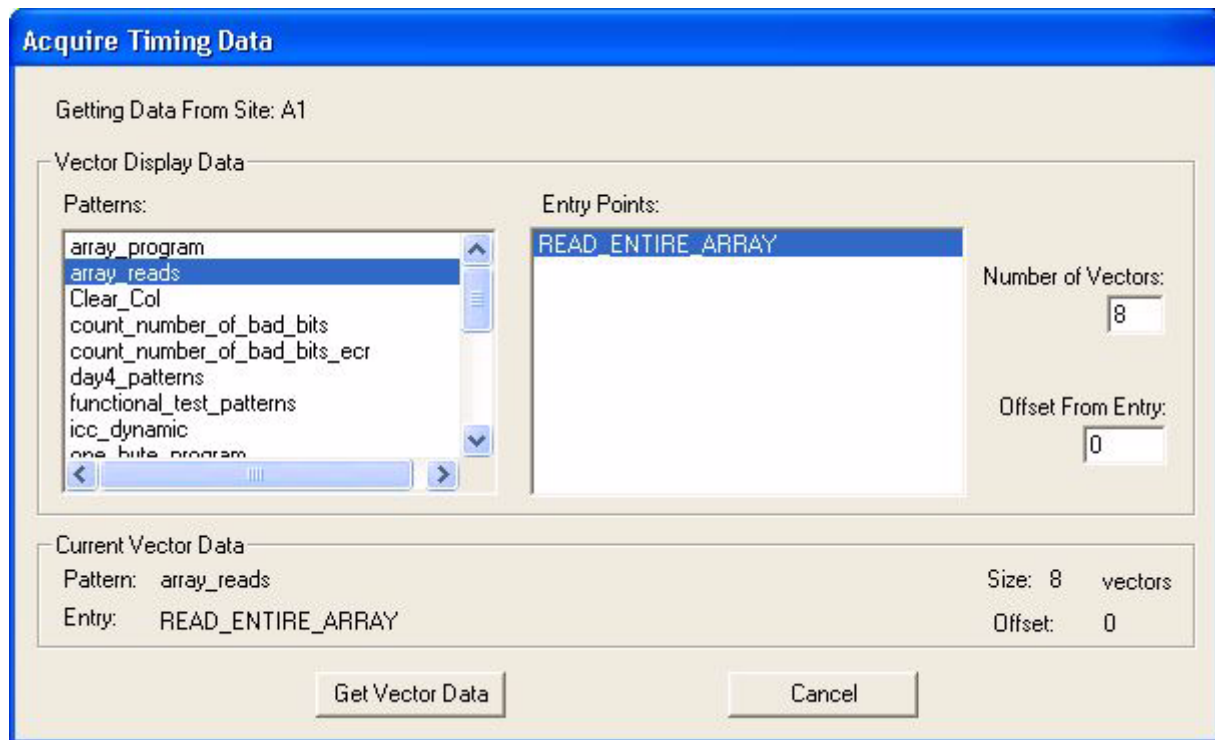
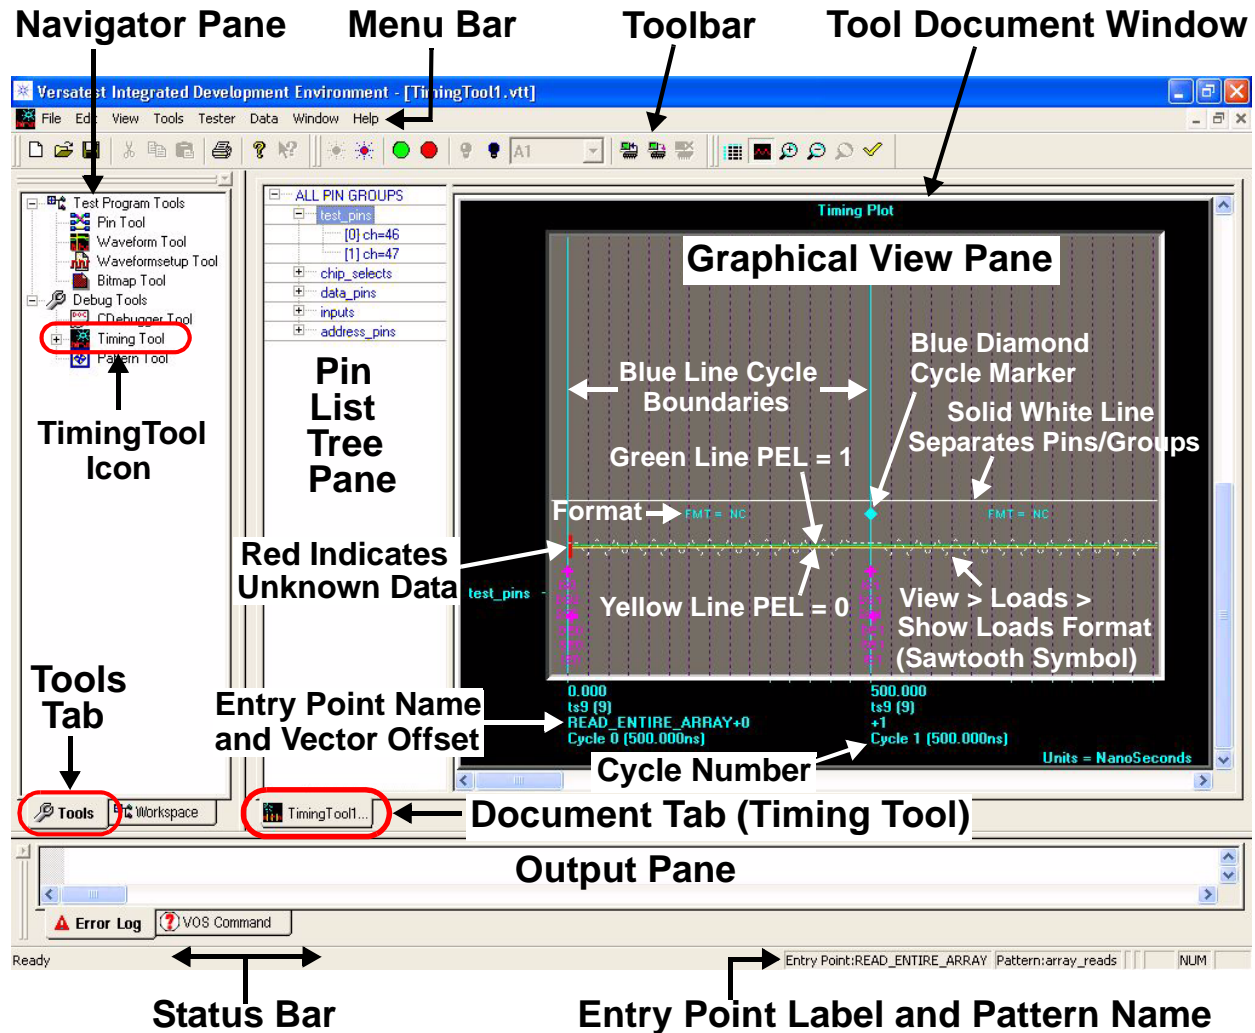

Figure 7-43. Acquire Timing Data Dialog Box
Figure 7-44. Timing Tool Main Window Graphical View Pane
In online mode, selecting the Acquire Data  toolbar button or its corresponding `Tester > Acquire Data` command displays the Acquire Timing Data dialog box (similar to Figure 7-43) that specifies the data to be acquired and displayed. The timing data acquired is from the physical site specified in the toolbar Site Connect Status `A1`  drop-down list box and the vector data is from the current test program. As done previously, selecting the yellow Set Online  toolbar button or corresponding `Tester > Set Online` command connects the IDE to the tester `A1` as shown in the toolbar `A1`  drop-down list box.
- button: Acquires the specified data and displays it in the Timing Tool graphical view (similar to Figure 7-44).
- 2 Selecting the button in the Acquire Timing Data dialog box (similar to Figure 7-43) acquires the specified data and displays it in the Timing Tool graphical view (similar to Figure 7-44).